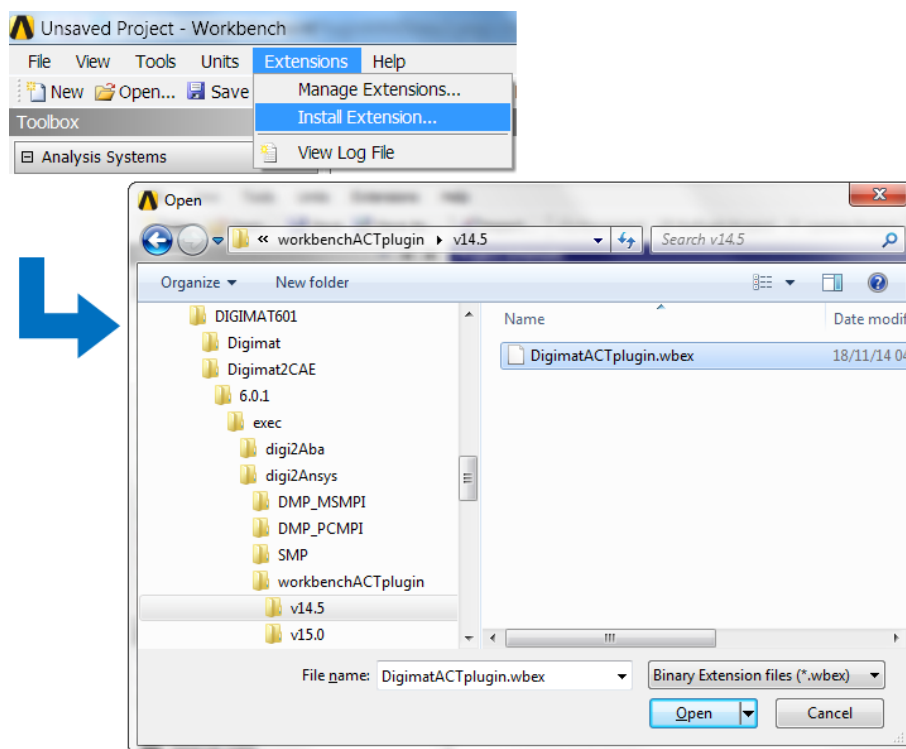

Figure I.5.6: Installing the DigimatACTplugin extension for ANSYS Workbench.
2. Browse the "Extensions" menu and select "Install Extension..." (Figure I.5.6).